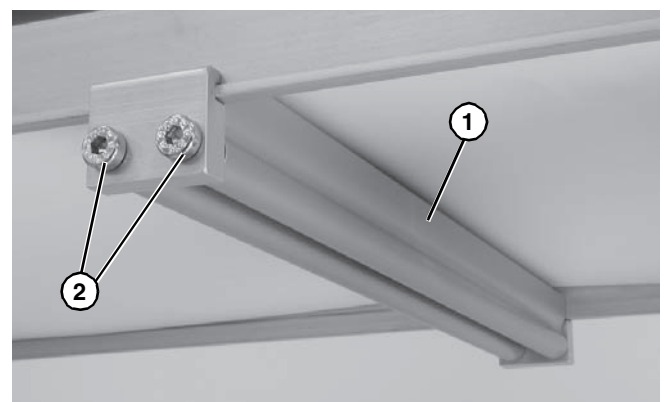

Figure 16
- Install roller assembly as shown (**Figure 16, item 1**). Tighten screws (**Figure 16, item 2**) to 60 in-lb (7 Nm).